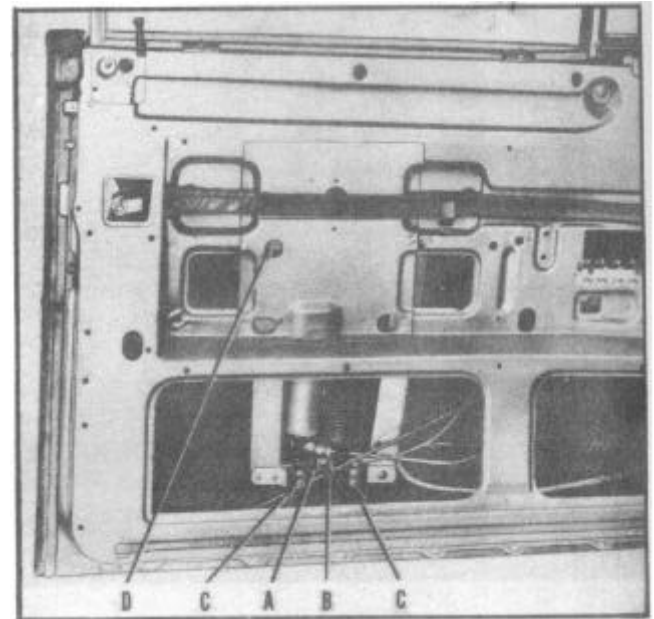

FIGURE 116
3. Disconnect hydraulic tube (A), Figure 116, and solenoid electrical connection (B).
4. Loosen two 1/2" hex nuts (C) and remove upper retaining screw (D).